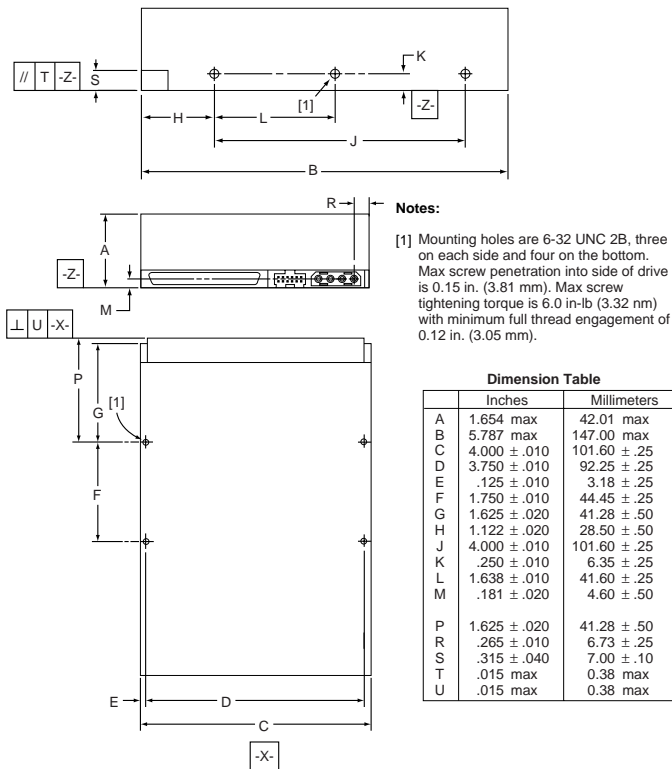

Figure 10. Mounting configuration dimensions (LW model)
- a. Mount the drive to the host system's chassis using four 6-32 UNC screws. Two mounting holes are in each side of the drive and there are four mounting holes in the bottom of the drive. Do not over-tighten or force the screw if it does not seem to screw in easily. The dimensions of the drive are provided in Figure 10.